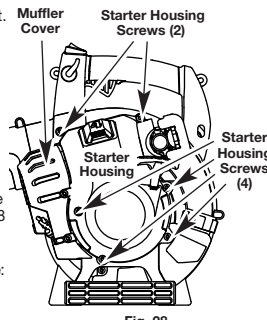

Fig. 28
- Remove the 2 muffler cover screws with a flat blade or T-25 Torx head screwdriver (Fig. 28), then remove the cover.
- Remove the 6 starter housing screws with flat blade or T-25 Torx head screwdriver (Fig. 28), then remove the housing.
NOTE: Make sure that the screws are reinstalled into their original holes (Fig. 28).
- Remove the 2 plastic muffler cover screws with a flat blade or T-25 Torx head screwdriver (Fig. 28), then remove the cover.
- Remove the 2 plastic and 4 aluminum starter housing screws with flat blade or T-25 Torx head screwdriver (Fig. 28), then remove the housing.